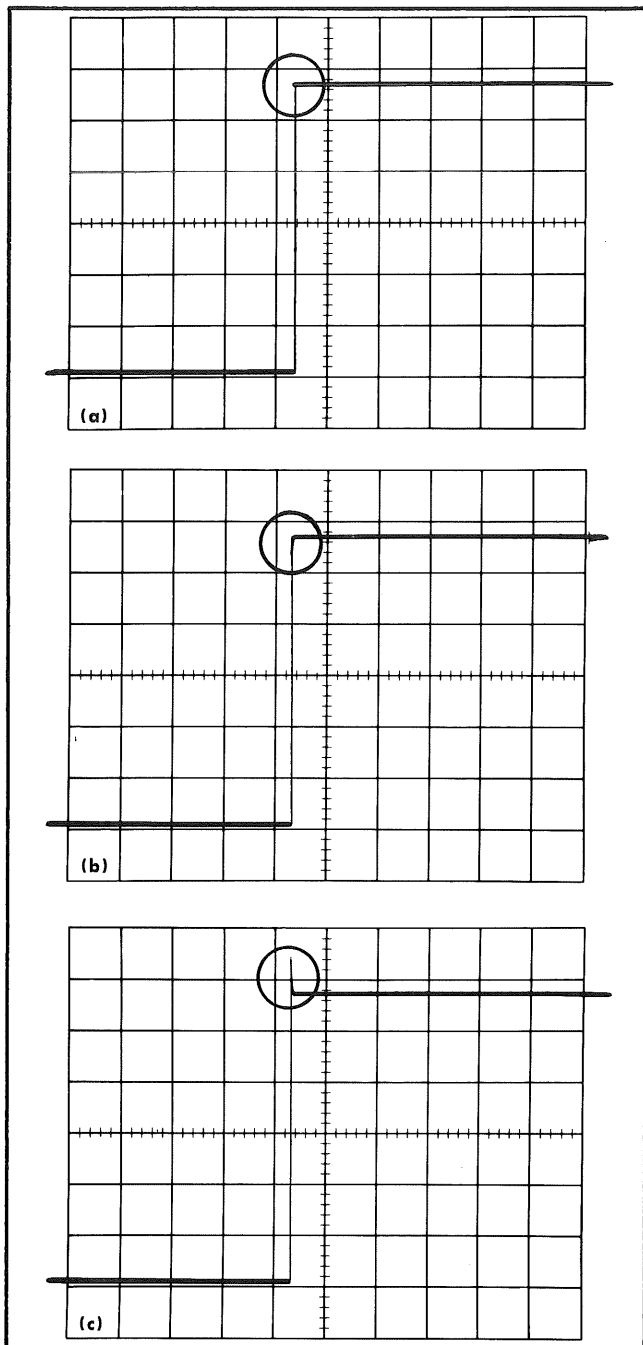

Fig. 13. Vertical deflection plate capacitance compensation. (a) Correct adjustment, (b) Under-compensated, (c) Over-compensated.
f. **Check**—Waveform should be flat with no overshoot or roll-off. Fig. 13 shows the display when correctly and incorrectly compensated.